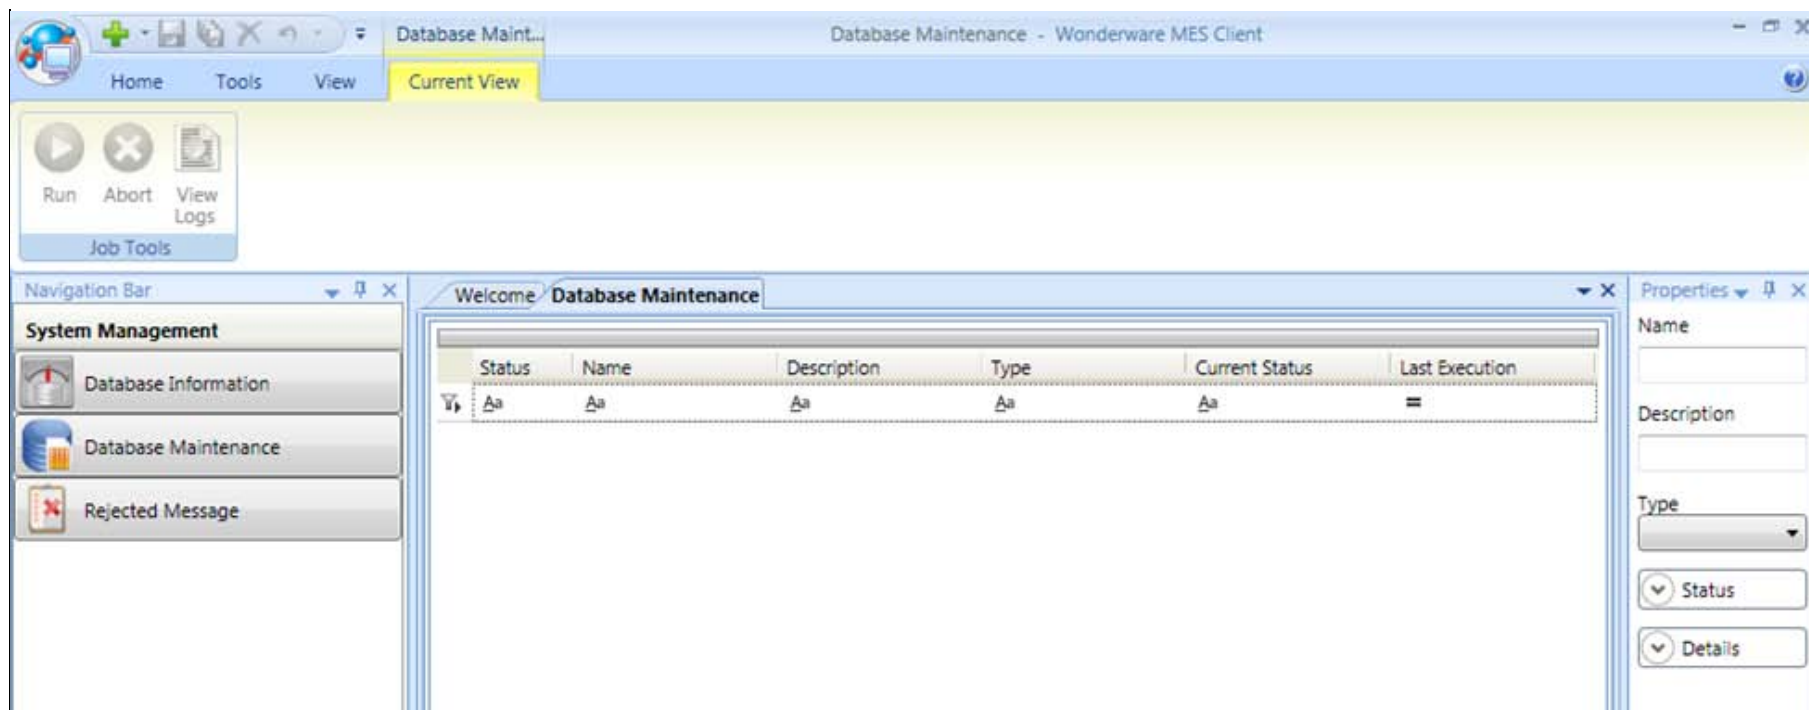

FIGURE 5: SYSTEM MANAGEMENT > DATABASE MAINTENANCE PANEL
1. In the MES Client, select **System Management**, then **Database Maintenance** (Figure 5 below).